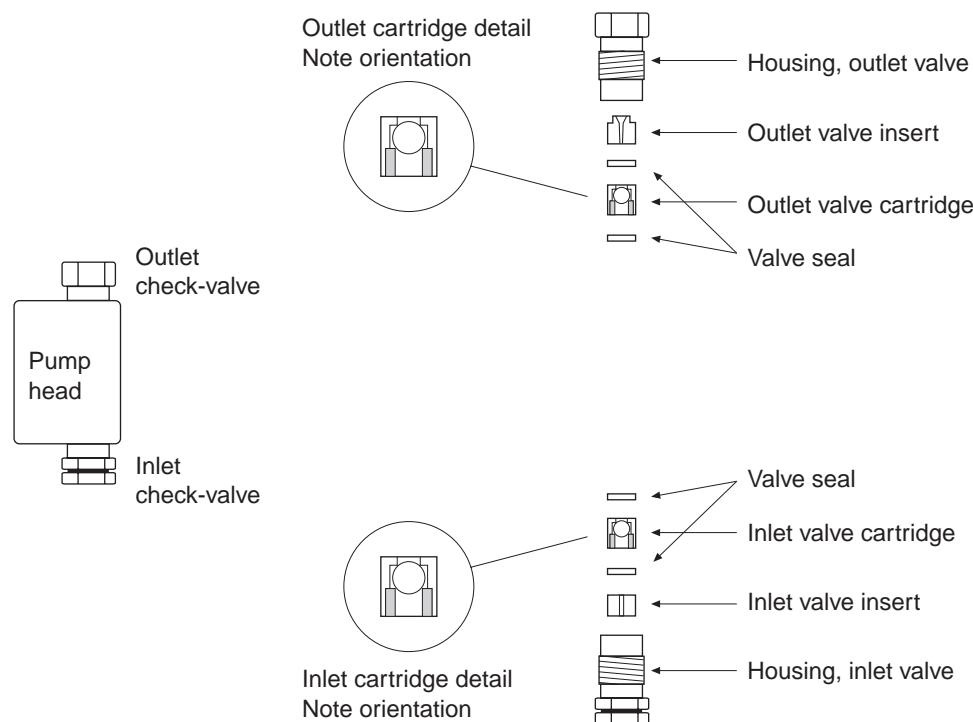

Figure 4-4. Check-valve assemblies
- Rebuilding** 1. Remove the check-valve cartridge from its housing (Figure 4-4).